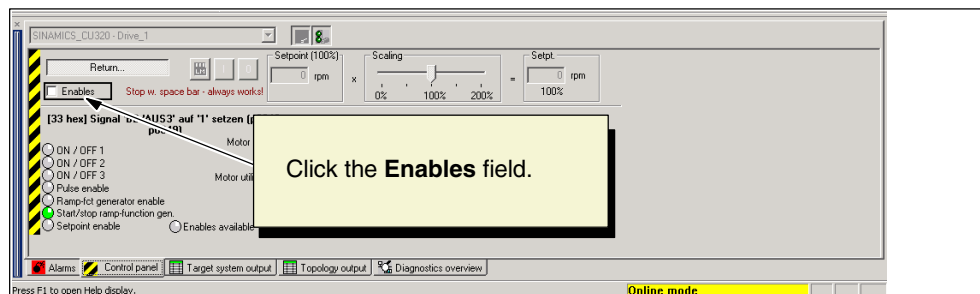

Fig. 4-6 Enables
- As shown in Fig. 4-6, click the **Enables** field to set the commands for enabling the control words in the drive system.